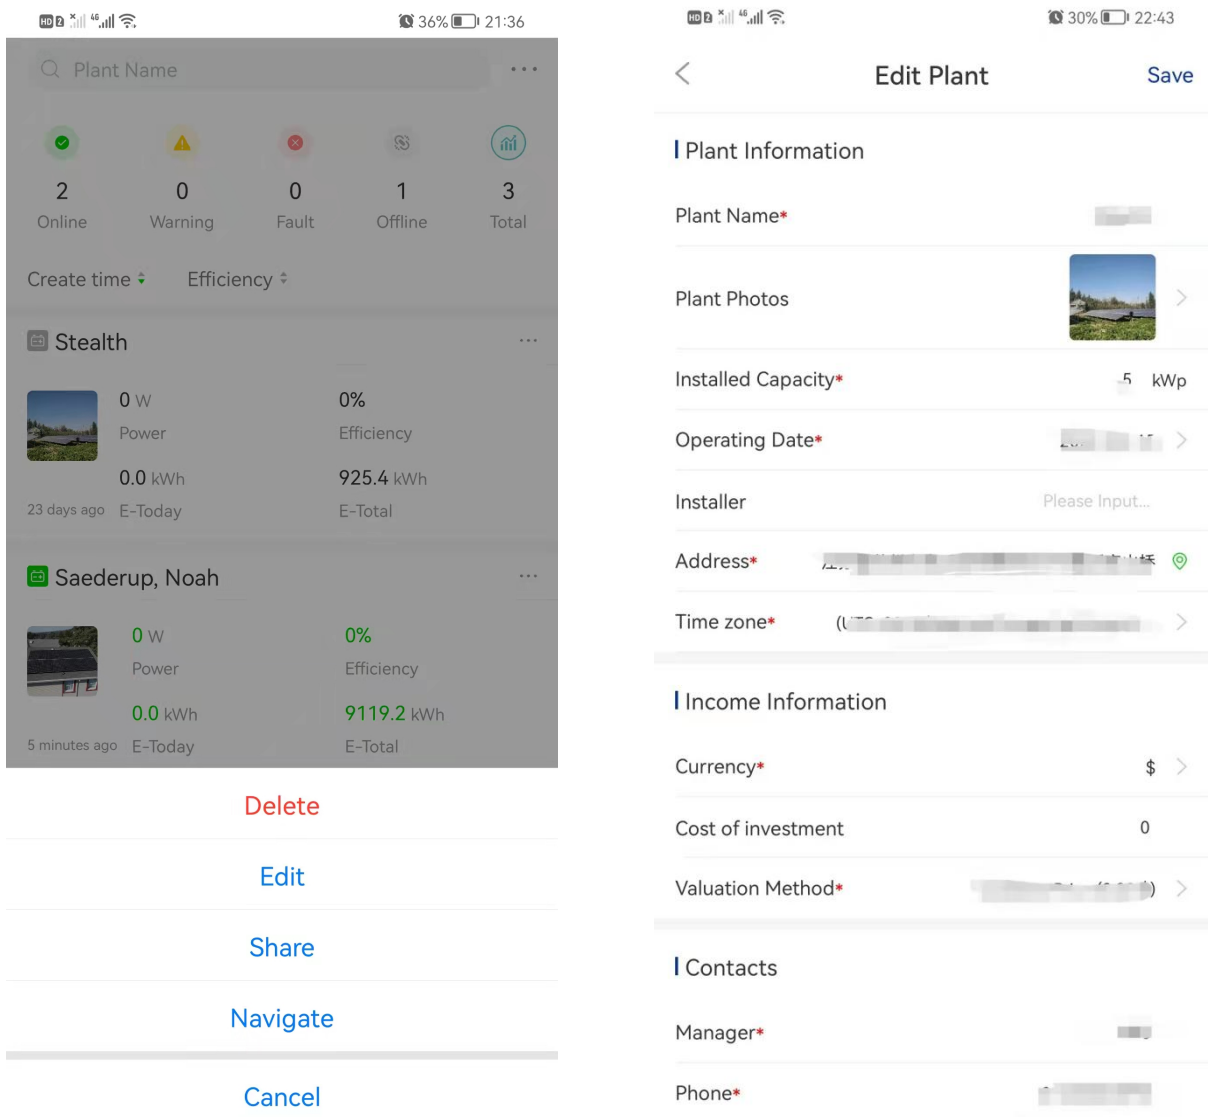

Figure 6-4 Edit plant
1. Click "Plants" at the bottom, click "..." at the upper right corner of the plant, and click "Edit" to modify the plant, as shown in Figure 6-4.